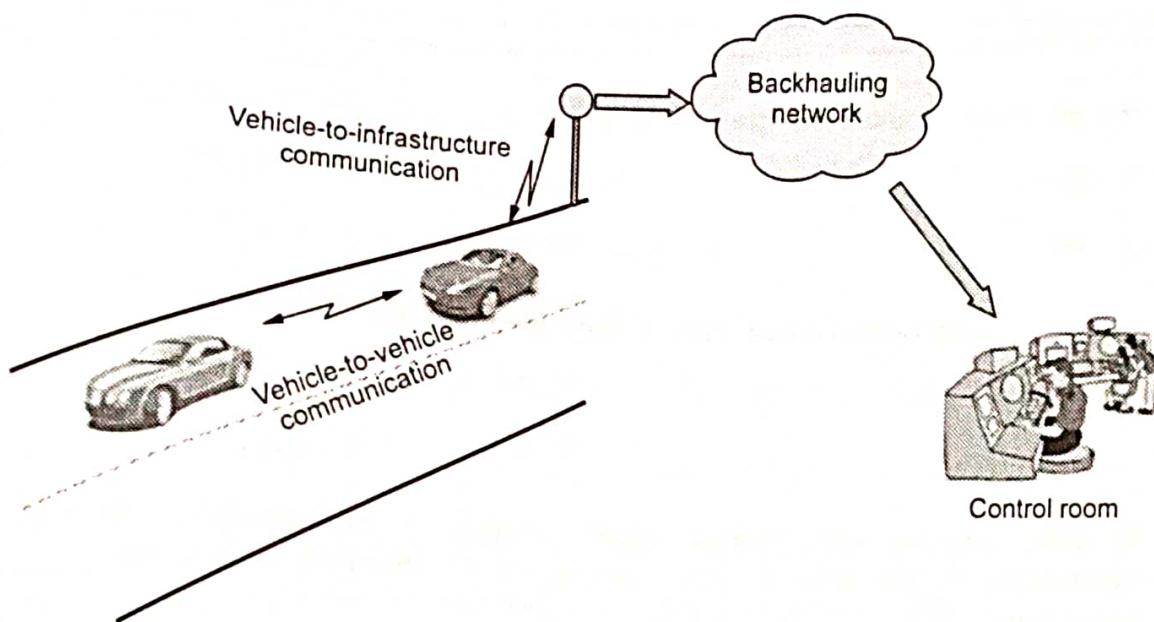

Fig. 7.10.1
- Fig. 7.10.1 shows V2V communication.